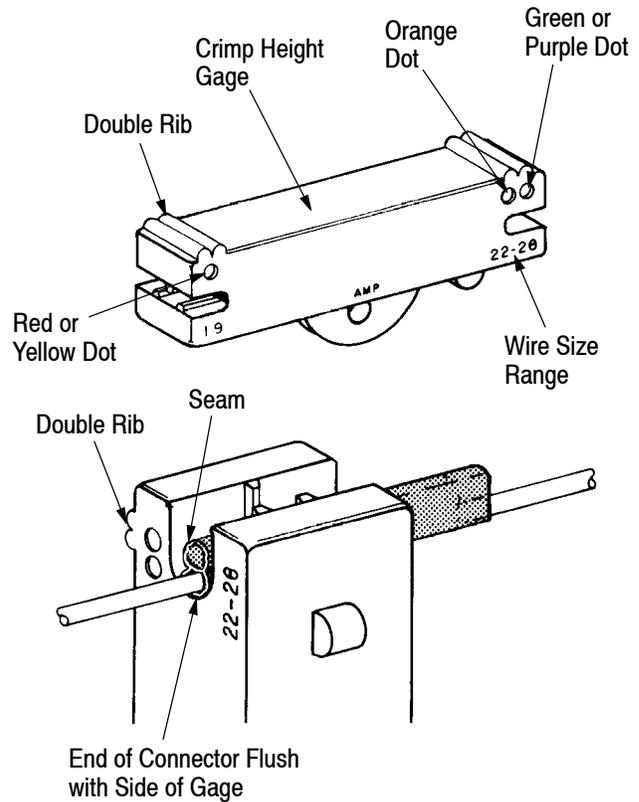

Figure 7
**8.1. Gaging Crimped Connectors** (Figure 7)